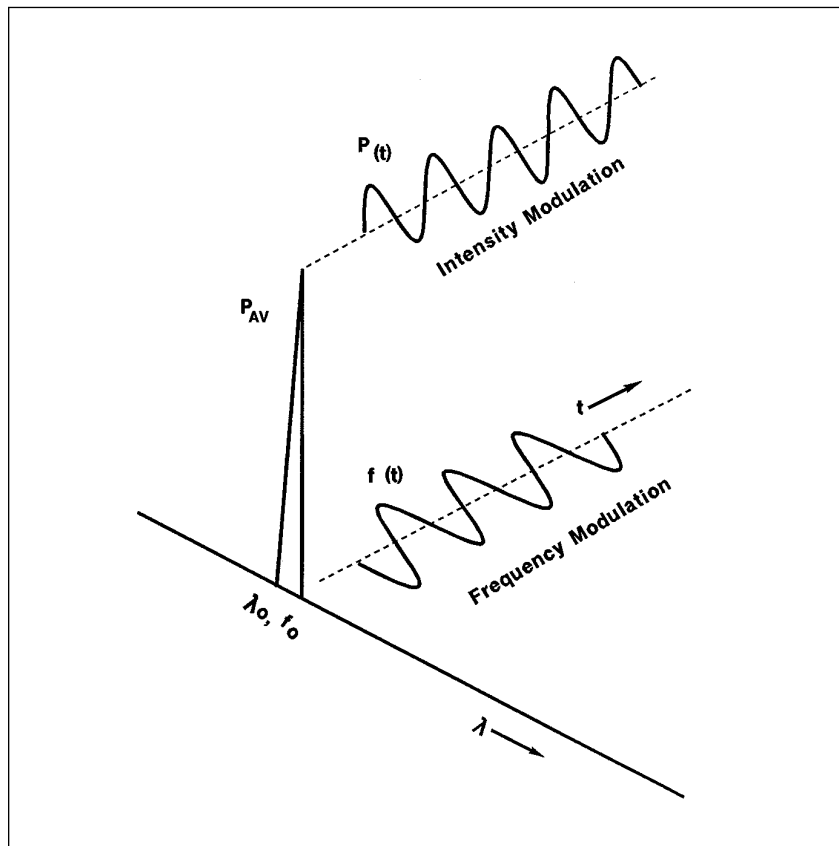

Figure 7. Simultaneous intensity modulation and frequency modulation of a single-mode laser
Variation of the optical frequency as a by-product of intensity modulation is a common property of semiconductor laser diodes. This incidental frequency modulation (FM) — sometimes called “chirp” — is illustrated in figure 7. Normally an unwanted side effect, you can exploit this FM characteristic as a method for transmitting information over an optical fiber.